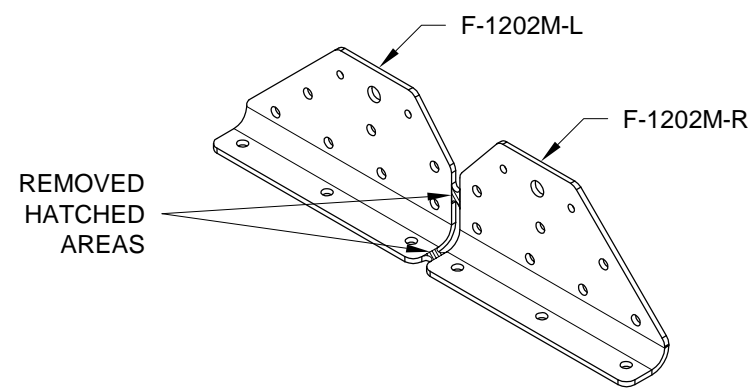

FIGURE 1: SEPARATING THE CANOPY ATTACH DOUBLERS
Step 1: Separate the F-1202M as shown in Figure 1.